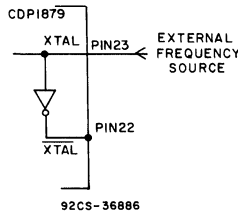
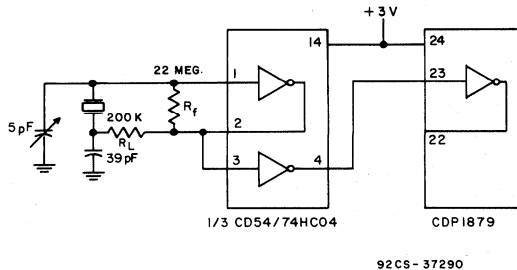
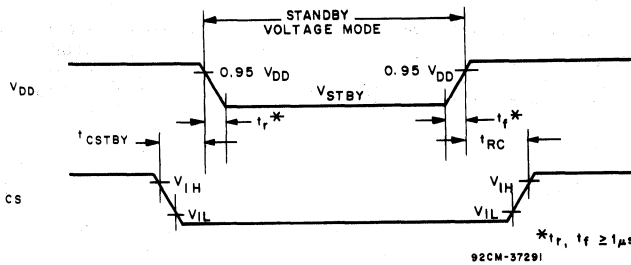
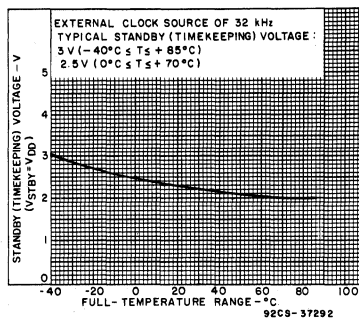

Fig. 5 - Connections for an external-frequency source applied to real-time clock.
Fig. 7 - Typical external clock-source circuit.
Fig. 8 - Standby (timekeeping) voltage- and timing-waveforms.
Fig. 9 - Typical standby (timekeeping) voltage vs. full-temperature range.
2. An external frequency input that is supplied at the XTAL input. XTAL is left open (see Fig. 5). A typical external oscillator circuit is shown in Fig. 7 in section, "Standby (Timekeeping) VOLTAGE OPERATION".
clock source must be supplied at the XTAL input (see Fig. 7). The standby requirements for CHIP SELECT/DESELECT are listed in Table IV, and Fig. 8 indicates the timing waveforms. Fig. 9 illustrates the typical timekeeping curve over the full temperature range.